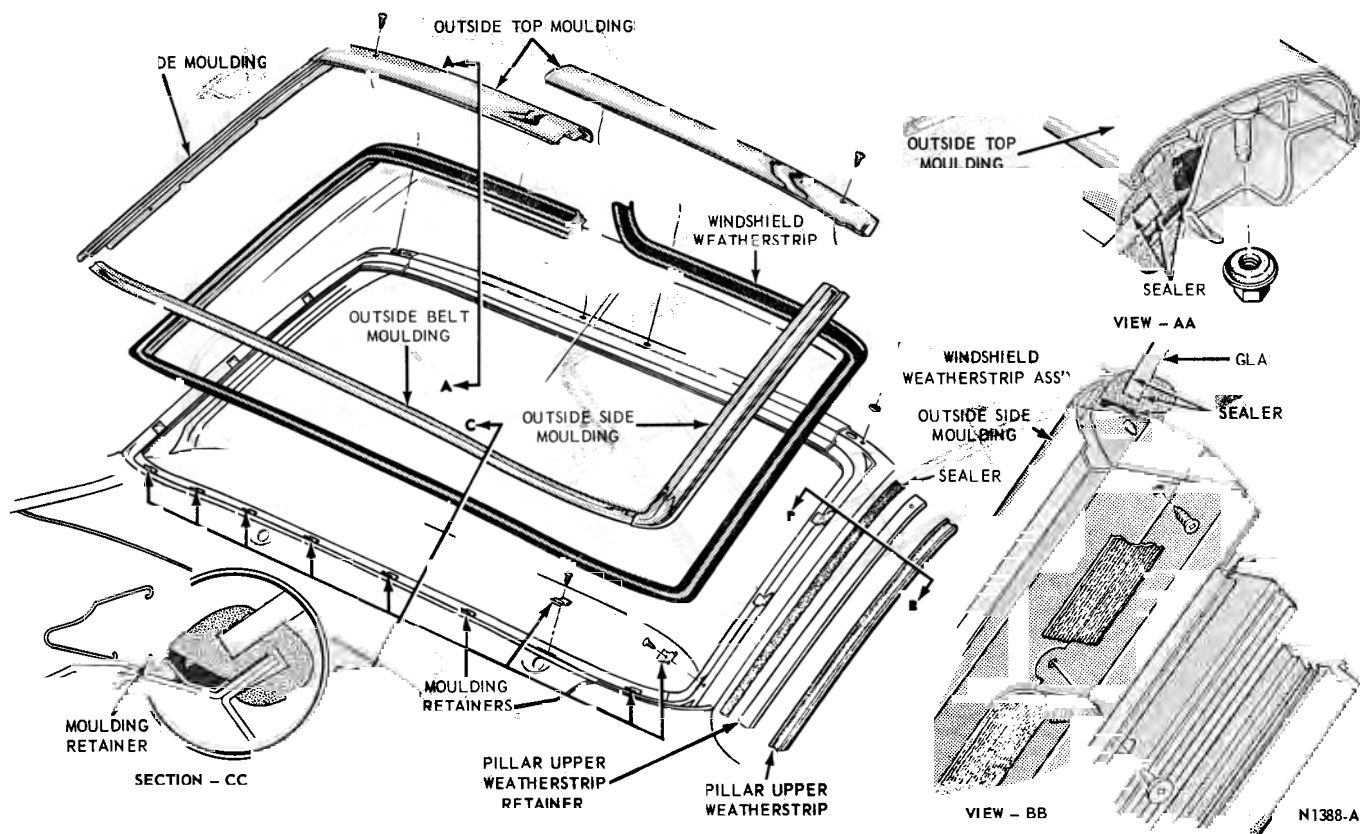

FIG. 20—Windshield Installation—Mustang Body Type 76
5. Remove the front upper body pillar weatherstrips (Fig. 20). Note that these weatherstrips are pressed into their retainers.
7. Remove the retaining screw and two retaining nuts from each left and right windshield outside top moulding and remove the mouldings (Fig. 20, View AA).
8. Install the outside belt moulding (Fig. 20) by snapping the moulding over the retaining clips.
11. Position the left and right front upper body pillar weatherstrip retainers (Fig. 20) and install the retaining screws.